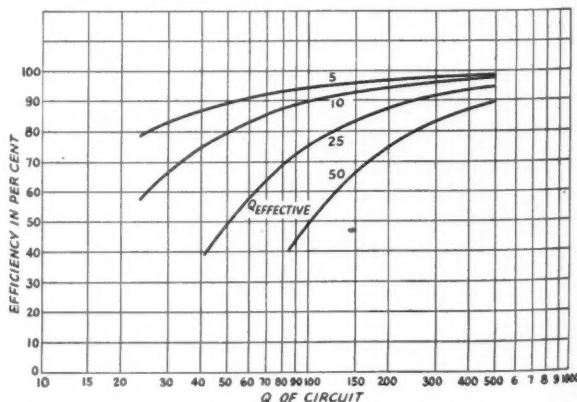

Fig. 12 — Curves showing final-amplifier tank-circuit efficiencies depending upon Q of circuit from Eq. (21).
Fig. 12 gives a plot of Eq. (21).